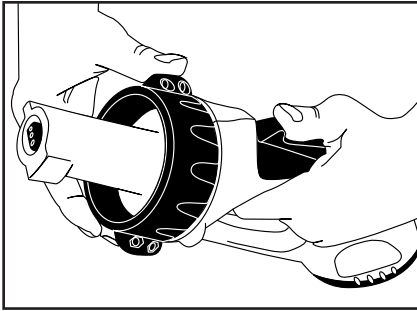

Figure 6
1. Twist the lock ring on the power handle to the unlocked position. (see figure 6)